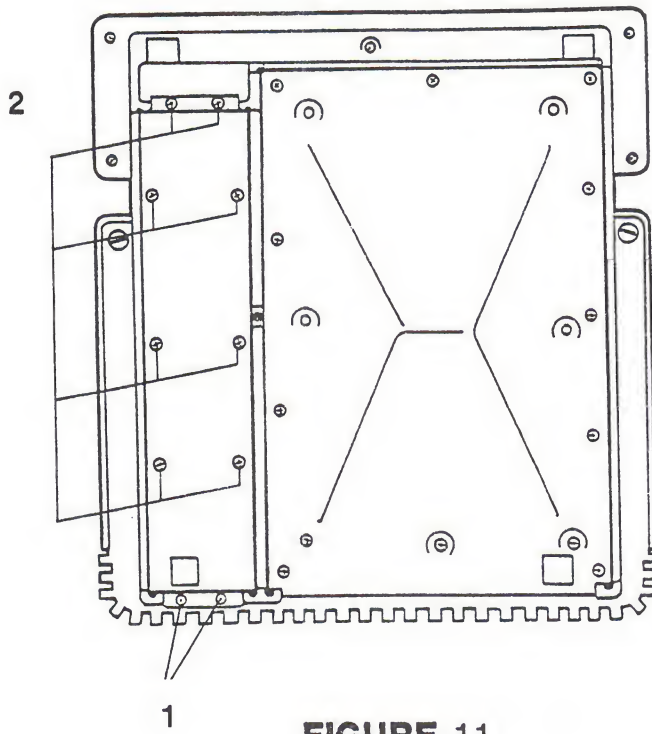

FIGURE 11
3. Loosen but don't remove the two Phillips head screws located on the rear edge of the power supply bottom cover, near the on/off switch and power supply receptacle. (See Figure 11, Item 1).
4. Completely loosen the eight screws that secure the power supply to the chassis. Do not try to take them out (See Figure 11, Item 2).